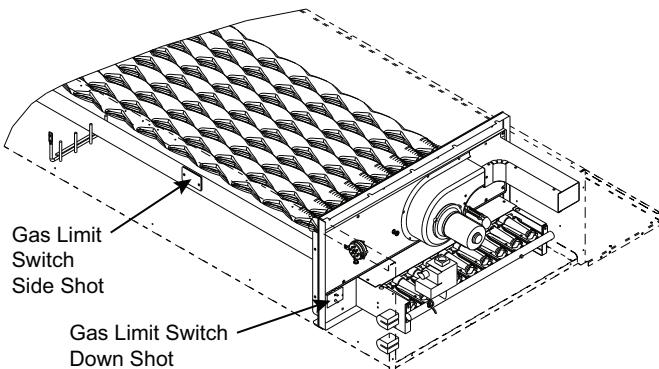
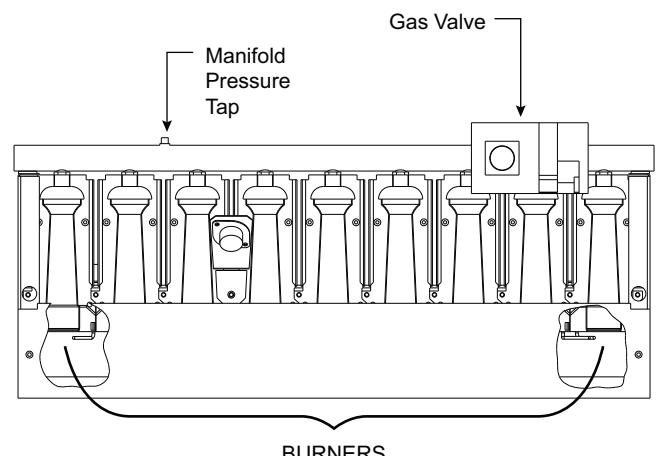

Fig. 48 — Gas Limit Switch Location
Fig. 54 — Burner Tray Details
The heat exchanger system consists of a gas valve feeding multiple in-shot burners off a manifold. The burners fire into matching primary tubes. The primary tubes discharge into combustion plenum where gas flow converges into secondary tubes. The secondary tubes exit into the induced draft fan wheel inlet. The induced fan wheel discharges into a flue passage and flue gases exit out a flue hood on the side of the unit. The induced draft fan motor includes a flue gas pressure switch circuit that confirms adequate wheel speed through the Integrated Gas Control (IGC) board. Safety switches include a Rollout Switch (located in the burner section; see Fig. 54) and a limit switch (mounted through the side of the heat exchanger cover panel [Gas Limit Switch Side Shot] and through the vestibule plate [Gas Limit Switch Down Shot]). (See Fig. 48.)
10. Slide the burner tray out of the unit. (See Fig. 54.)
2. Remove manifold pressure tap plug from manifold and connect pressure gauge or manometer. (See Fig. 54.)
11. Turn off unit, remove pressure manometer and replace the manifold pressure tap plug. (See Fig. 54.)